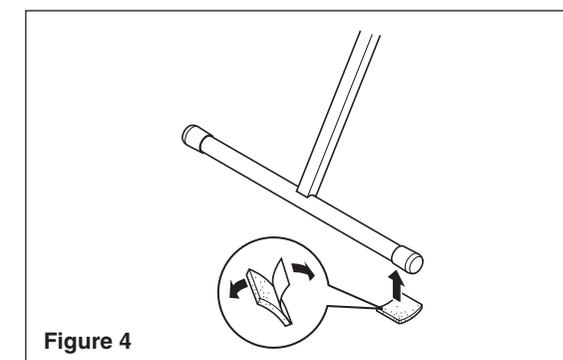

Figure 4
- * If the stand is unstable, affix the cushioning sponges to the pipes of the legs (Figure 4).